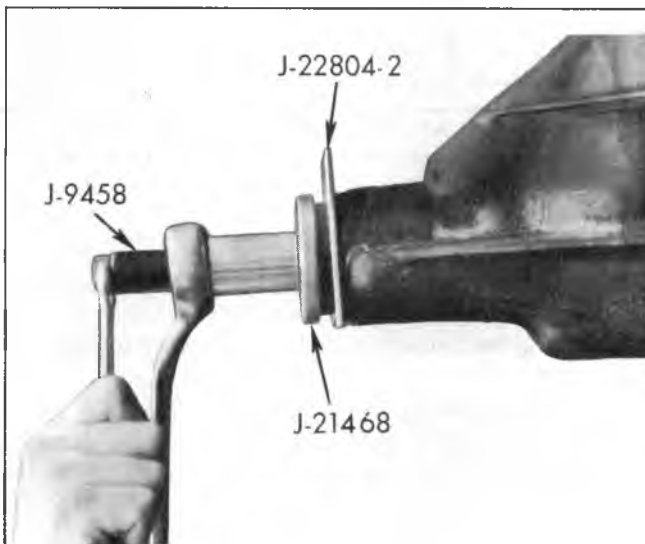
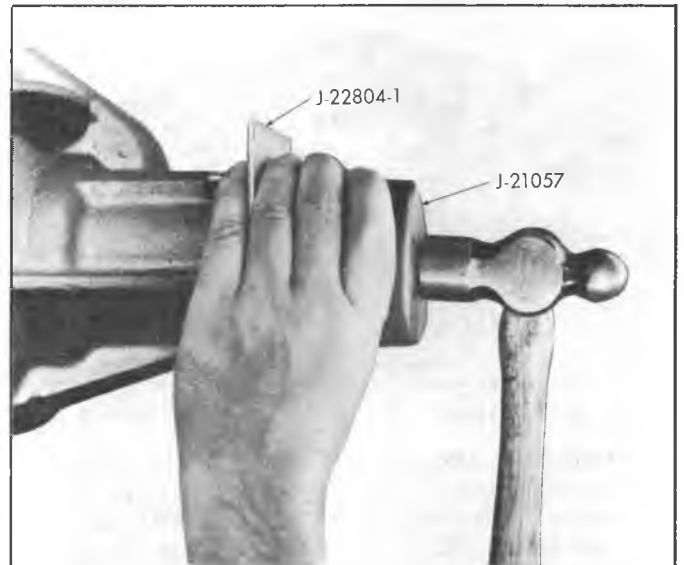

Fig. 17B-Drive Pinion Flange Oil Seal Installation (Light Duty)
Fig. 18B-Drive Pinion Flange Oil Seal Installation (Heavy Duty)
3. Use Tools J-21468 and J-9458 for light duty axle as shown in Figure 17B. Use Tool J-21057 for heavy-duty axle. See Figure 18B. Press seal into carrier bore until gauge plate is flush with the carrier shoulder and seal flange. Turn gauge plate 180 degrees from installer position; seal must be square in carrier bore to seal properly against pinion flange.